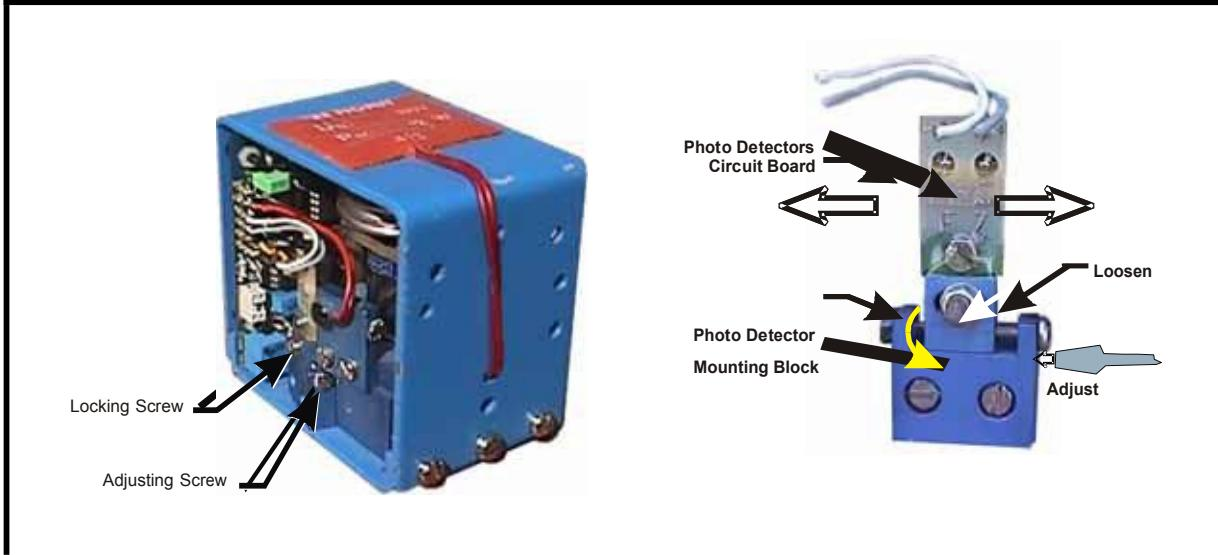

Figure 8-1 Oxygen sensor adjustment
- e) Loosen the locking screw that secures the adjusting screw for positing the photo-sensor on the detector assembly. Only loosen the locking screw enough to permit the necessary adjustment (see Figure 8-1).